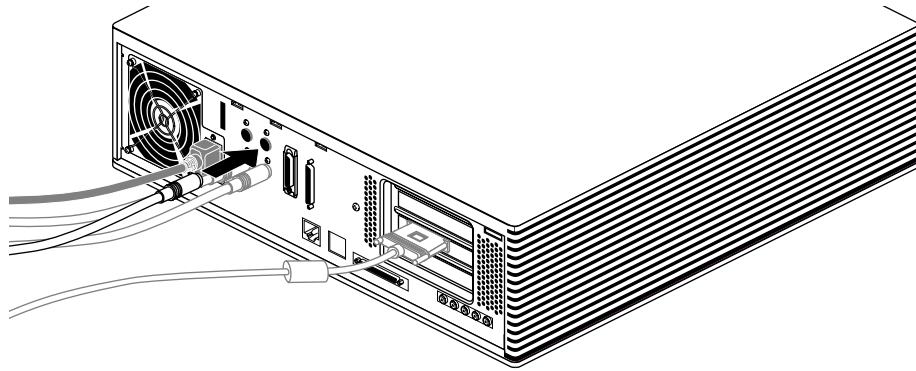

Figure 6-14 Connecting the Serial Cable to the Serial Port on the Indigo² IMPACT Workstation
- Plug the other end of the cable to the serial connector on the back of the Indigo² IMPACT workstation, as shown in Figure 6-14.